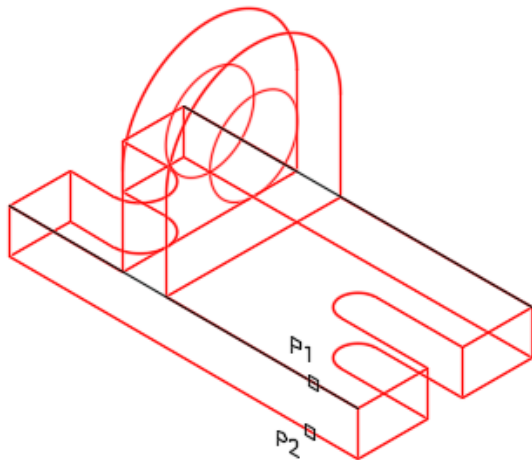

Figure Step 7A
Step 7 Set layer: Surface 1 as the current layer. Enter the RULESURF command, as shown below, to insert a ruled surface. (Figure Step 7A and 7B)